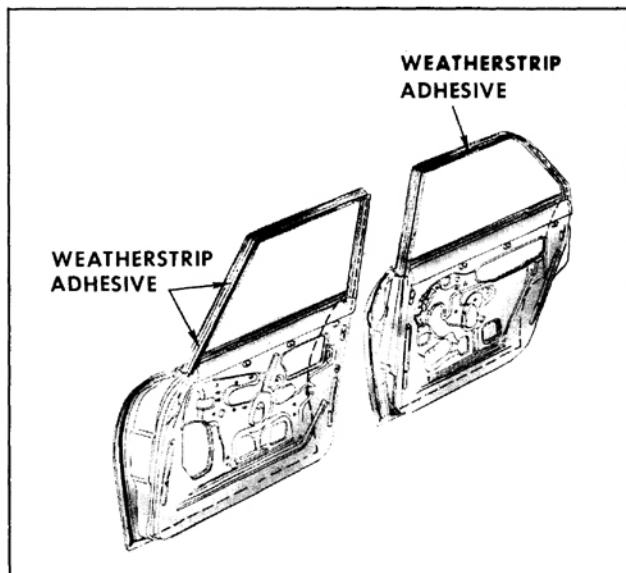

Fig. 16-316 Adhesive Application
2. Clean off old cement from door to insure a clean cementing surface. On hardtop and convertible styles, apply a bead of an approved weatherstrip cement to hinge and lock pillar facing of door. Begin adhesive application at belt line and continue down door for approximately seven to nine inches. On closed styles, begin adhesive application approximately five inches below belt line on hinge pillar side of door and continue around entire door upper frame to five inches below belt line on lock pillar side of door (Fig. 16-316). Cement is usually limited to these areas, however, it can be applied at any point where additional retention of weatherstrip is needed.